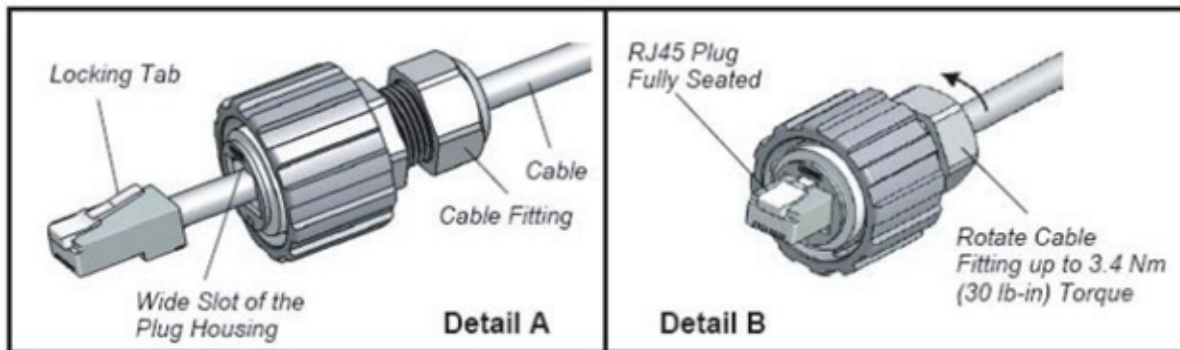

Figure 15: Securing Weather Sealed Connector to RJ-45 Cable
2. Gently pull the cable until the plug is fully seated. Hold the plug in position and rotate cable fitting until tightened to a torque of 3.4 Nm (30 lb-in) as shown in Detail B of figure 15.